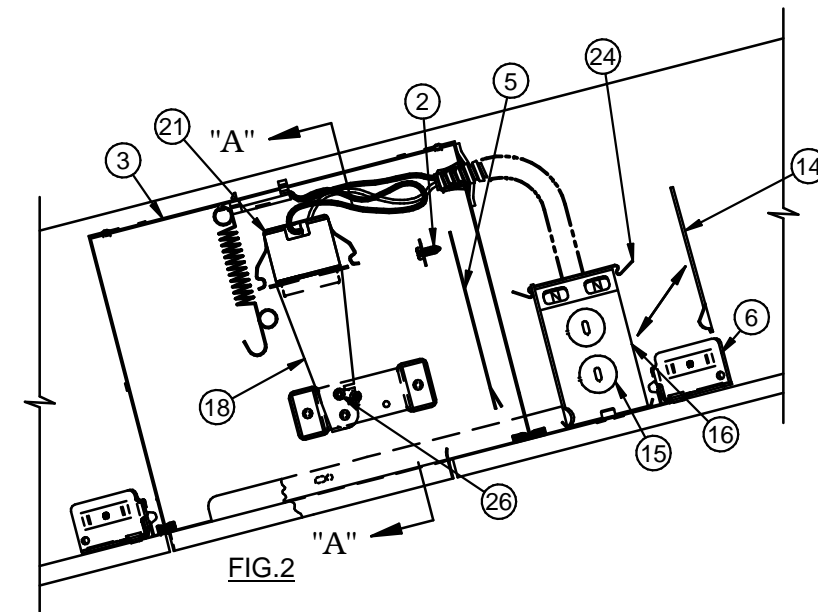

FIG. 2
WARNING: Use only those trims, lamps, and maximum wattages proper for this fixture, as indicated on the label within the housing (3) (Fig. 2).
7. Adjust position of socket (21) by loosening thumbscrew (26) and rotating bracket socket (18). Retighten thumbscrew (Fig. 2 & 6).
9. To gain access to junction box (16) after ceiling is finished, remove screw (2) and access door (5) inside of fixture. Junction box cover plate (14) can now be removed for service.
THIS UNIT IS TO BE USED ONLY IN CEILINGS WITH 0-12 TO 12-12 PITCH. THIS UNIT IS ONLY TO BE MOUNTED WITH JUNCTION BOX SLOPED UP. (AS SHOWN IN FIG. 2)